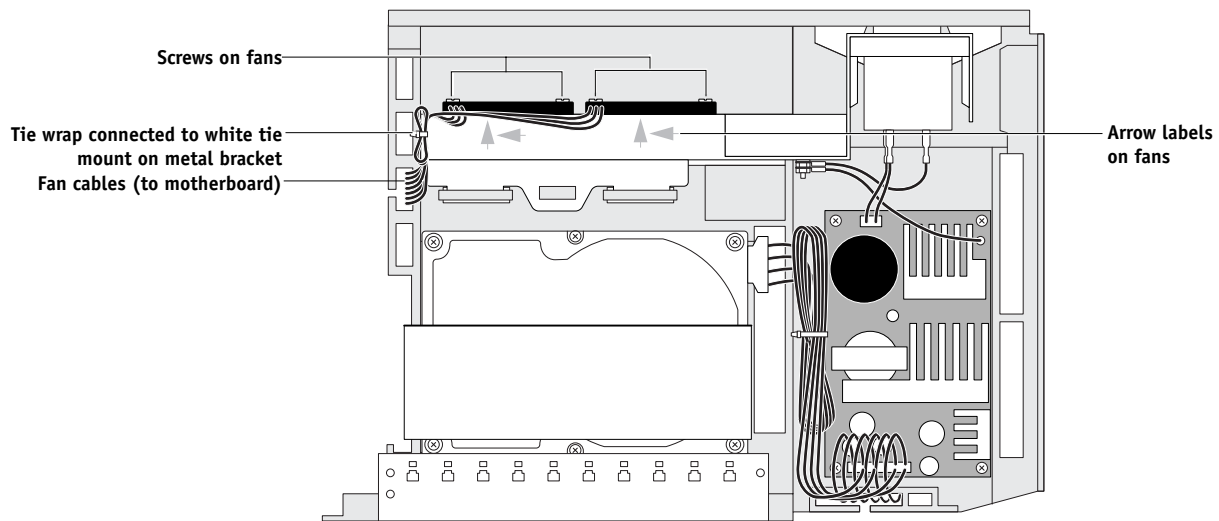

FIGURE 4-17 Removing the exhaust fans
- 1. Place the fans on the metal bracket so that an arrow on the fans points to the back of the chassis (see the direction of the arrow labels on the fans in Figure 4-17 on page 4-22).**